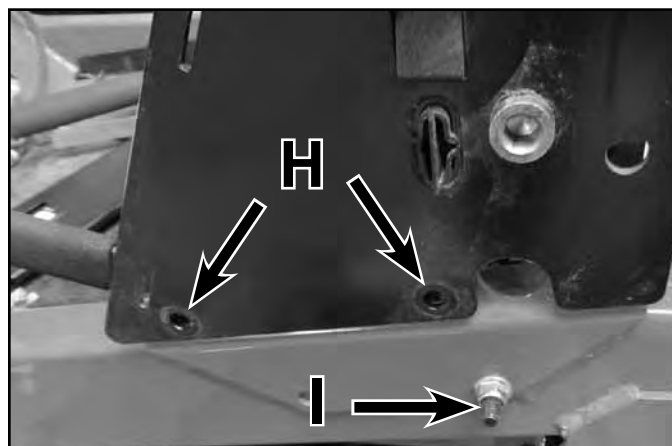

Fig. 023
11. Remove the (4) fasteners (H) that secure the Control Box to the frame (Fig. 023).
12. Remove the (2) nuts and (2) carriage bolts (I) that secure the Control Box to the frame (Fig. 023).